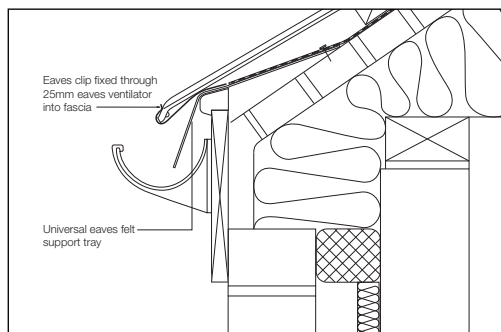

Fig 74 - Eaves detail with 25mm eaves ventilator
- 3 If a 25mm eaves ventilator is used, an eaves clip should be nailed through the ventilator into the timber fascia to restrain the tail of each slate at the perpendicular joint (Fig 74).